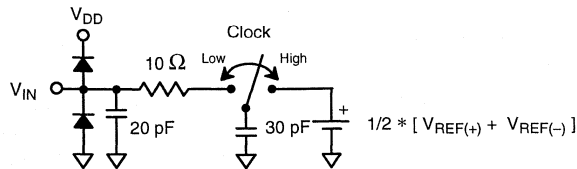

Figure 5. Analog Input Equivalent Circuit
- See V_{IN} input equivalent circuit (*Figure 5*). Switched capacitor analog input requires driver with low output resistance.